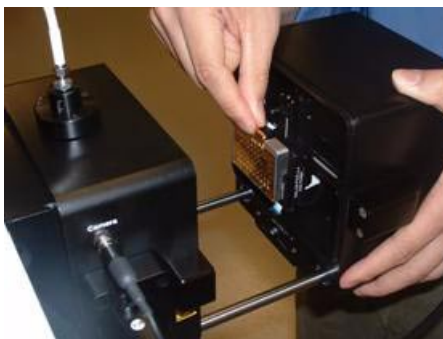

Figure 65 Inserting the Target Plate
- 4 Insert the Target Plate with the prepared sample spots into the Target Plate Holder. The plate is held in place by a magnet. See Figure 65.